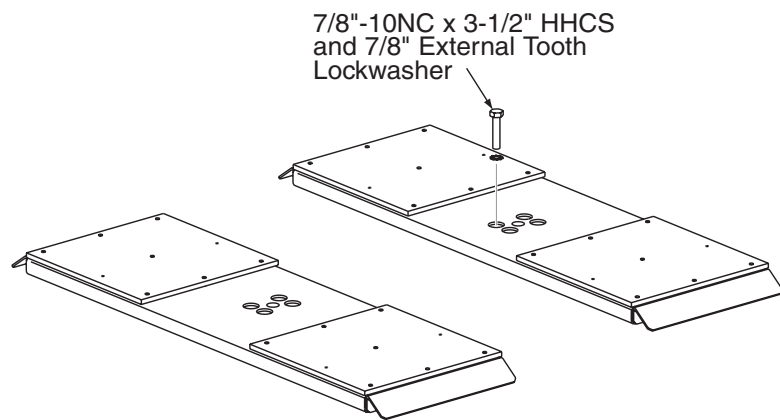

Fig. 21
1. Install pads on lift using 7/8"-10NC x 3-1/2" HHCS and 3/4" external tooth lockwasher and torque to 150 ft.-lbs, Fig.21.